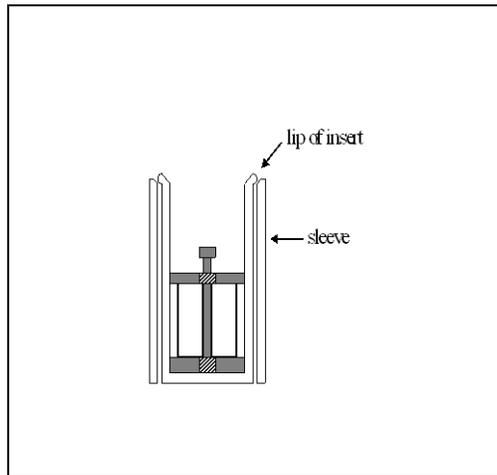

Figure 3. Assembled inner carousel, insert, and sleeve.
- 10.3. Place each inner carousel into an insert, and place the insert into a sleeve, as depicted in Figure 3. The insert has a lip on its rim so that it does not slide through the sleeve.